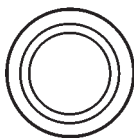

Figure 40. Main Circuit Breaker OFF Switch
1. Press the **main** circuit breaker "OFF" switch (Figure 40).